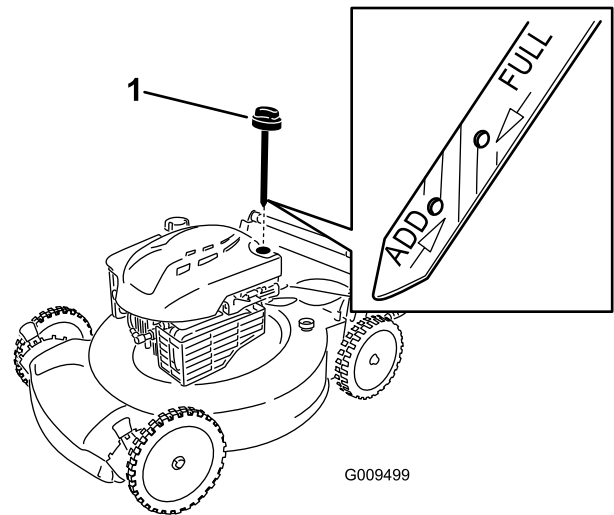

Figure 19
6. Remove the dipstick from the oil-fill tube (Figure 19).